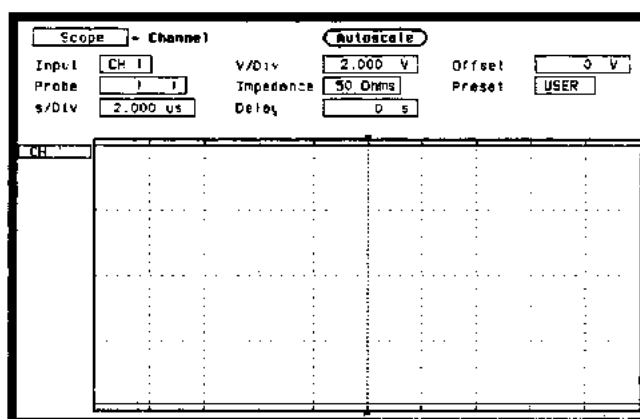

Figure 3-63. Channel Menu Configuration
4. Set **Input** to **CH 1**, **V/Div** to **2 V**, **Offset** to **0 V**, **Probe** to **1:1**, **Impedance** to **50 Ohms**, and **s/Div** to **2.0 us** as in figure 3-63.